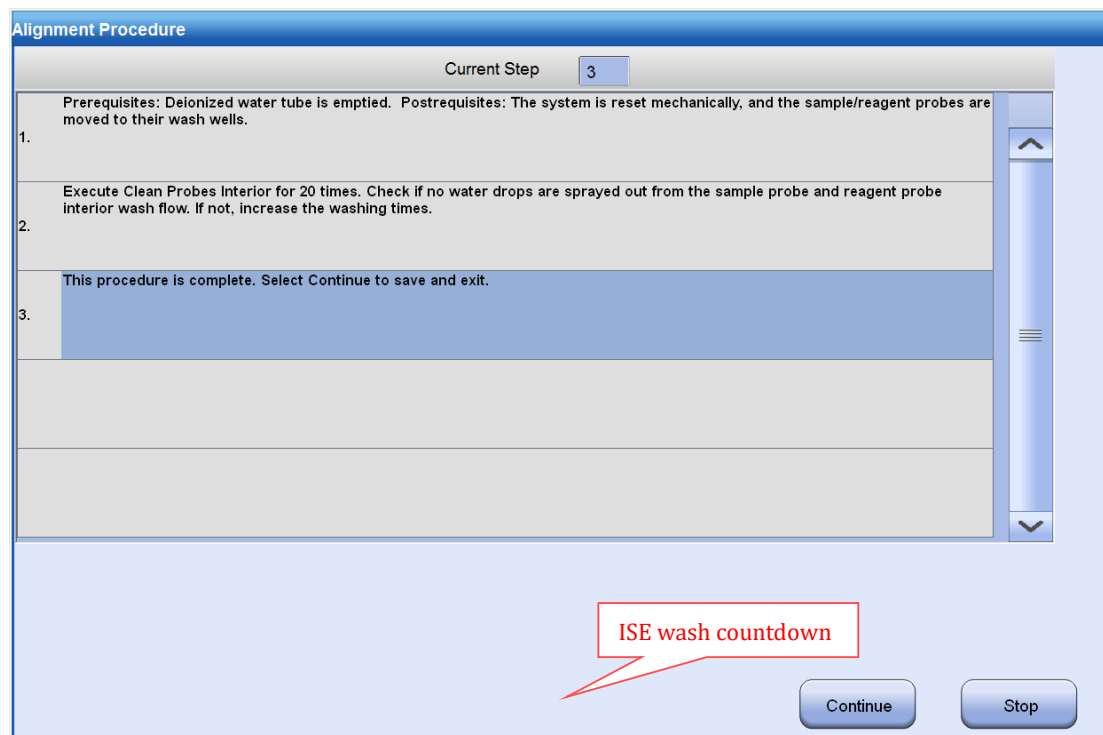

Figure 13-2 Empty ISE Tube
- 1) As shown in Figure 13-2, enter the "Empty Wash Solution Tubes" process interface;
- As shown in Figure 13-2, enter the "Empty DI Water " process interface;
- As shown in Figure 13-2, enter the "Empty Auto wash tube " process interface;